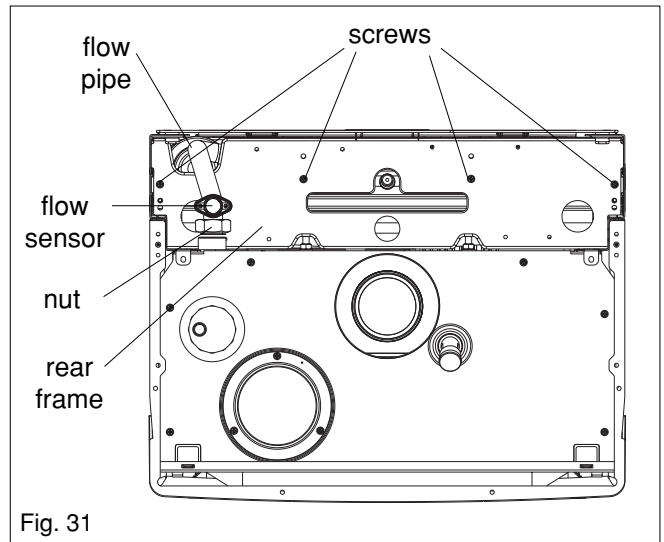

Fig. 31
6.22.1 EXPANSION VESSEL (removal, fig. 31)